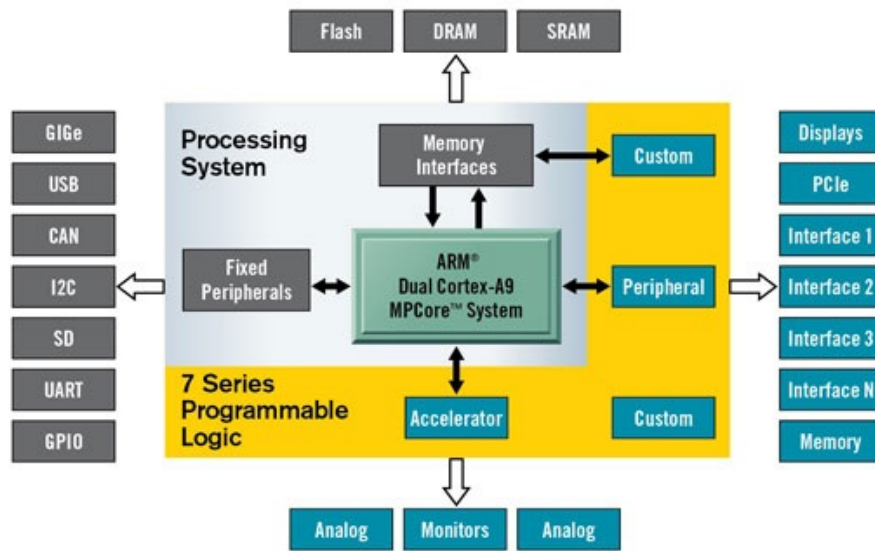

Figure 1: Overview of the Processing System and Programmable Logic
In PYNQ, programmable logic (PL / FPGA) circuits are presented as hardware libraries called *overlays*. These overlays, which can be accessed through an Python API on the processing system (PS), are analogous to software libraries. An overview of the interaction between PS, PL and peripherals is depicted in Figure 1.